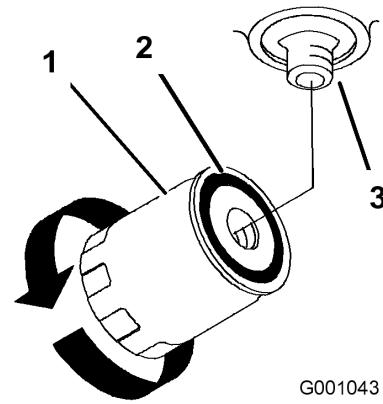

Figure 57
4. Apply a thin coat to the rubber gasket on the replacement filter (Figure 57).
6. Fill the hydraulic tank with hydraulic fluid until the fluid overflows the filter and then turn the oil filter clockwise until the rubber gasket contacts the filter adapter, then tighten the filter an additional 1/2 turn (Figure 57).